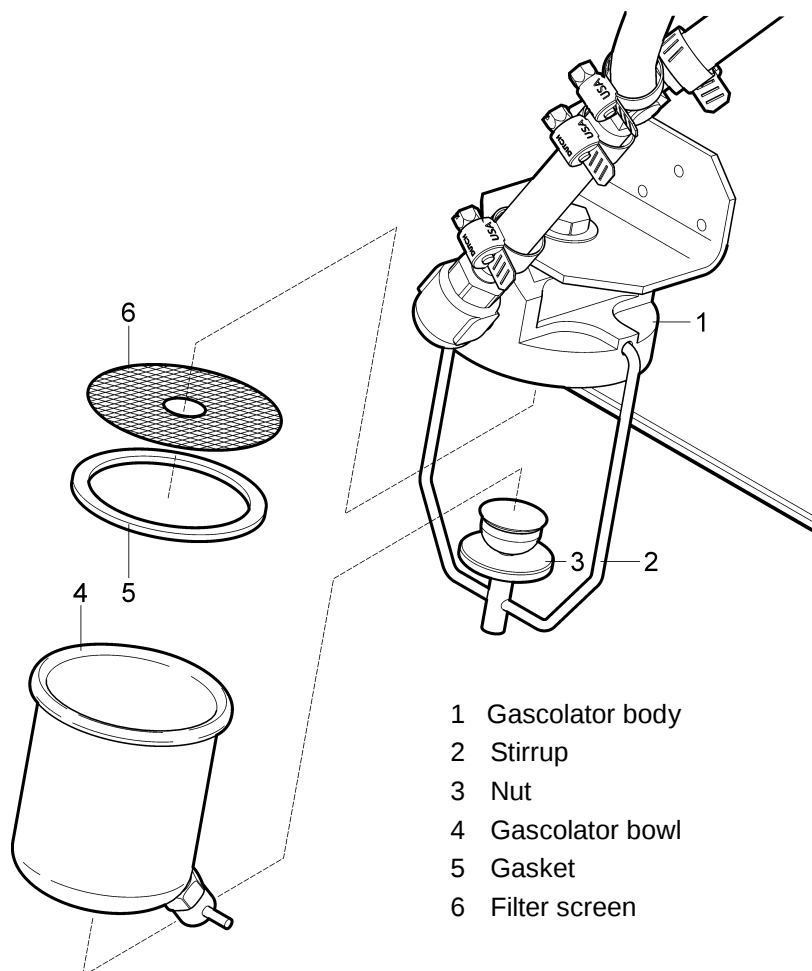

Fig. 9-8: Fuel filter cleaning
- (c) Remove the lockwire from nut (3. Fig. 9-8).
- (d) Loose the nut (3) and remove the gascolator bowl (4) and the gasket (5).
- (e) Use a small pointed tool to lift the edge of the filter screen (6) and carefully remove it for cleaning.
- (f) Clean the filter screen (6) by washing in fuel, or it can be blown off using an air line; inspect bowl (4) and clean if required.
- (g) Carefully install the filter screen (6) to the gascolator body, insert the gasket (5) and the gascolator bowl (4); make sure to correct installation.
- (h) Tighten the nut (3) and secure it by lockwire.